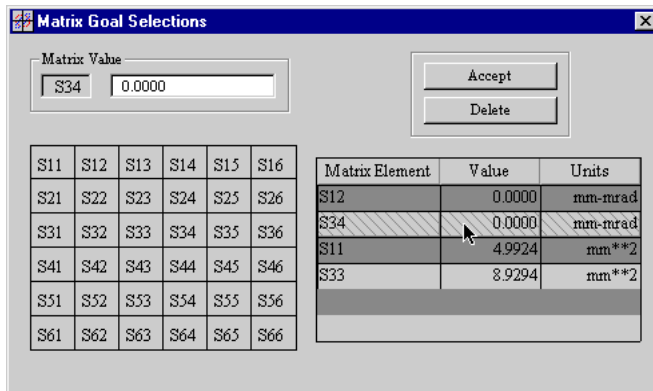

Figure 21 Matrix Goal Selections Window.
The Matrix Element button in the Match Specification Window opens the Matrix Goal Selections Window shown in Figure 21. This window allows the user to specify values of selected R matrix elements (match type 10) or Sigma matrix elements (match type 11).
Both the R Matrix option (match type 10) and the Sigma Matrix option (match type 11) use the Matrix Goal Selections Window (Figure 21) for inputting the goal values for up to six (6) of these matrix elements. The process for making goal selections in this window is the same for either matrix. To specify a matrix element value, click on the desired element in the matrix display and enter the value in the Matrix Value field. Use the Accept button to add it to the list. An entry in the list can be removed by selecting it with the mouse and pressing the delete button.